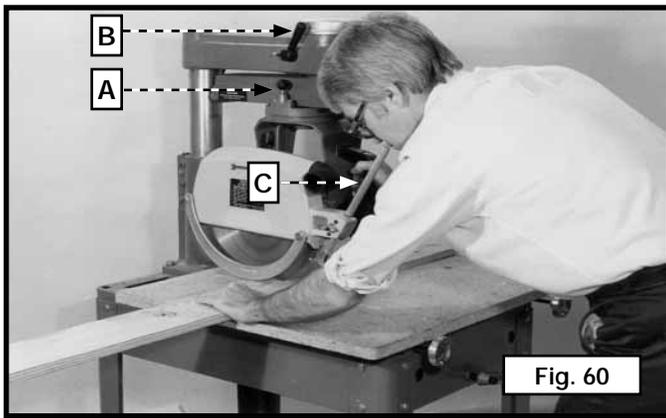

Fig. 60
Before cross-cutting, set the track arm (A) at "0" and tighten the track arm clamp handle (B) Fig. 60. Clamp the fence. Make sure that the saw blade is to the left and behind the fence. Place the workpiece on the table and butt it against the fence. The saw blade should be clear of the fence and table when the machine is turned on. Lower the saw blade until it lightly cuts into the table surface. Position yourself a little to the left of the machine for better visibility. Pull the saw blade across the workpiece and, after the cut is complete, return the saw blade to its starting position. Wait for the blade to stop before removing the cut-off piece.
**▲ CAUTION** Make sure that your hands are clear of the blade. Hold the workpiece firmly. As an added measure of safety, turn the anti-kickback rod (C) upside down and lock it in place so that the rod just clears the workpiece. In this position, the rod can act as a guard from the exposed teeth of the blade. See Fig. 60 for an illustration of a cross-cutting operation on a radial saw. Be sure to return the cutterhead carriage to the full rear position after each cross-cut operation.